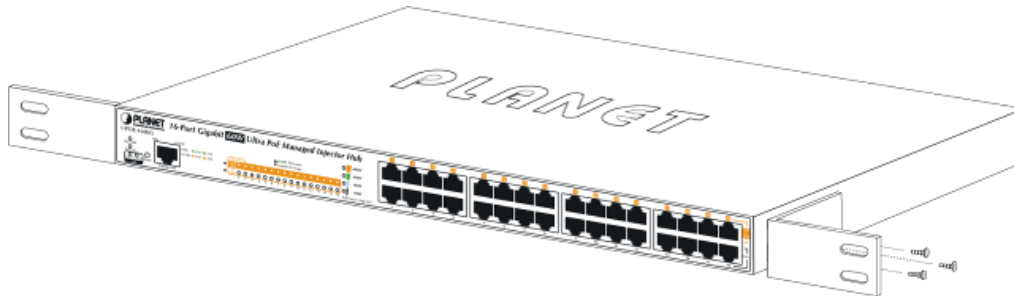

Figure 2-2-2: Brackets attaching to the 802.3bt PoE++ Managed Injector Hub
Step 2: Attach a rack-mount bracket to each side of the 802.3bt PoE++ Managed Injector Hub with supplied screws attached to the package. Figure 2-2-2 shows how to attach brackets to one side of the 802.3bt PoE++ Managed Injector Hub.